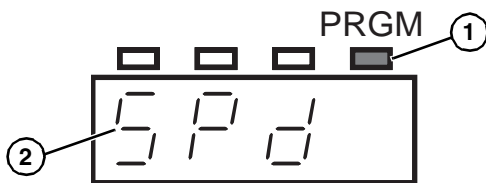

Figure 34
2. Press MODE to switch to the data setting mode. The PRGM LED (Figure 34, item 1) will illuminate and “SPd” (Figure 34, item 2) will be displayed.